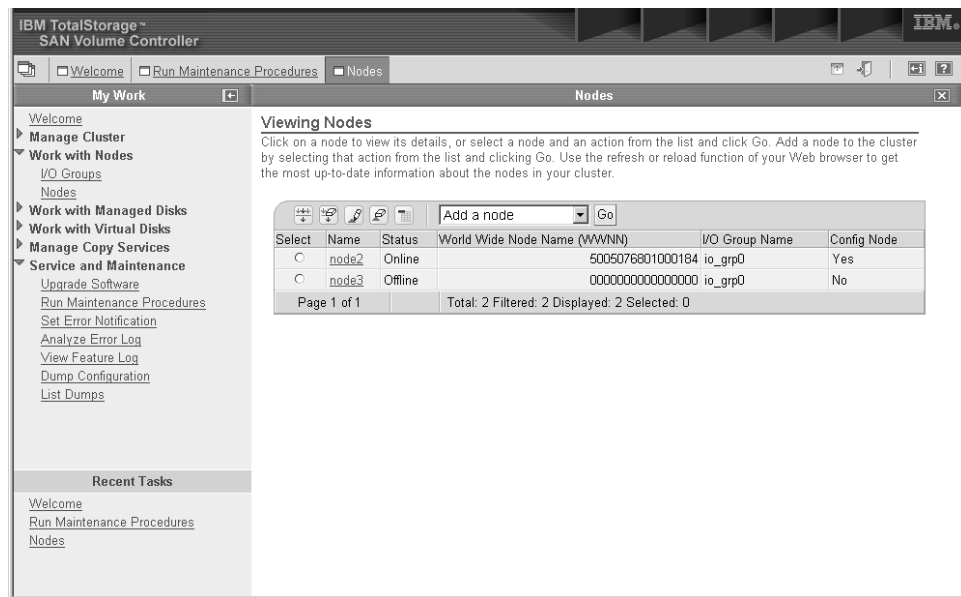

Figure 24. SAN Volume Controller Console Nodes panel
2. Select the Nodes option and the following panel is displayed. See Figure 24.